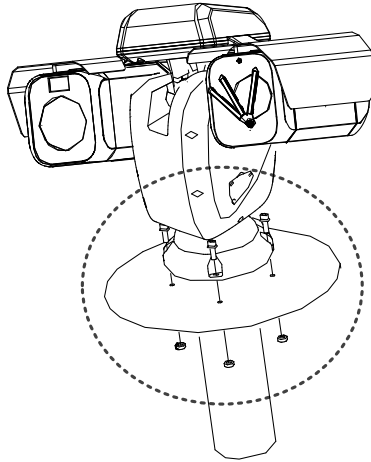

Figure 3-6 Install the Positioning System
2. Fix the positioning system onto the bracket base, as shown in Figure 3-6.